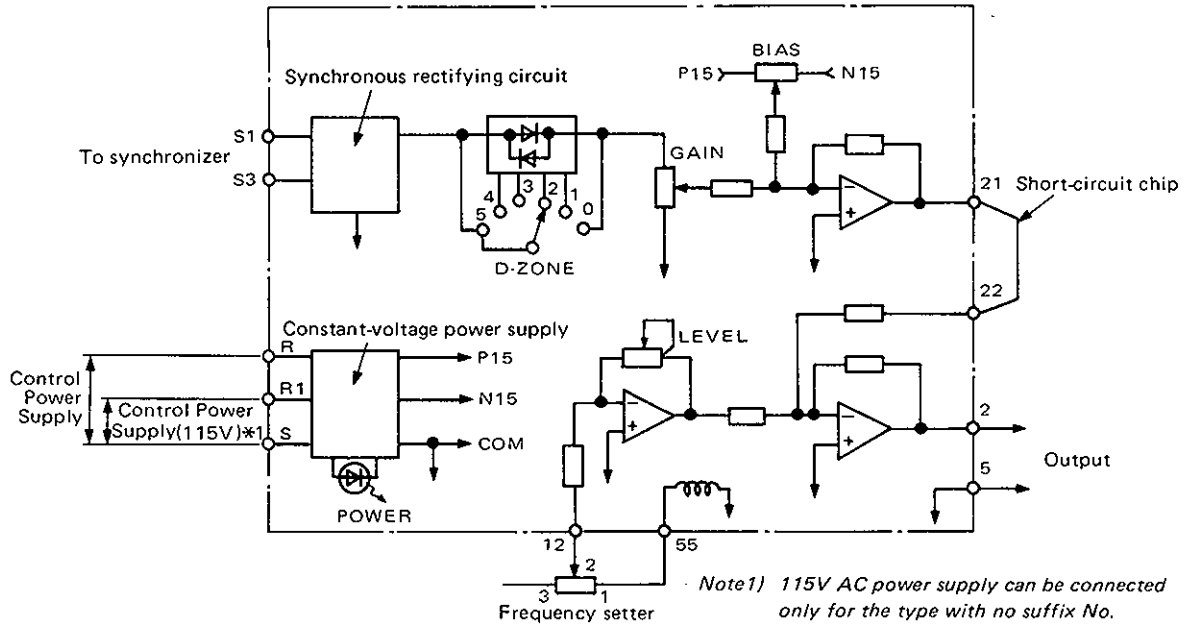

Fig. 5 Block Diagram of FR-FD* Deviation Detector
- (2) Connect the power supply across R and S. (For the type without suffix number, it is possible to connect the power supply across R1 and S depending on line voltage.) If incorrect wiring is done, the internal transformer may burn. (See the block diagram in Fig. 5.)
- (3) When it is required to provide a relay contact to the signal line, connect two contacts of microcurrent switching relay in parallel (or twin contact) to prevent improper contact.
- (4) Use twisted wire or shielded wire for signal line. Separate the signal line from the power line.
In addition to the synchronous rectifying circuit, the FR-FD* has a built-in constant-voltage power supply circuit to permit bias adjustment, sensitivity adjustment and dead zone adjustment, as shown in Fig. 5. Further, detection signal and frequency setting signal are operated and output.